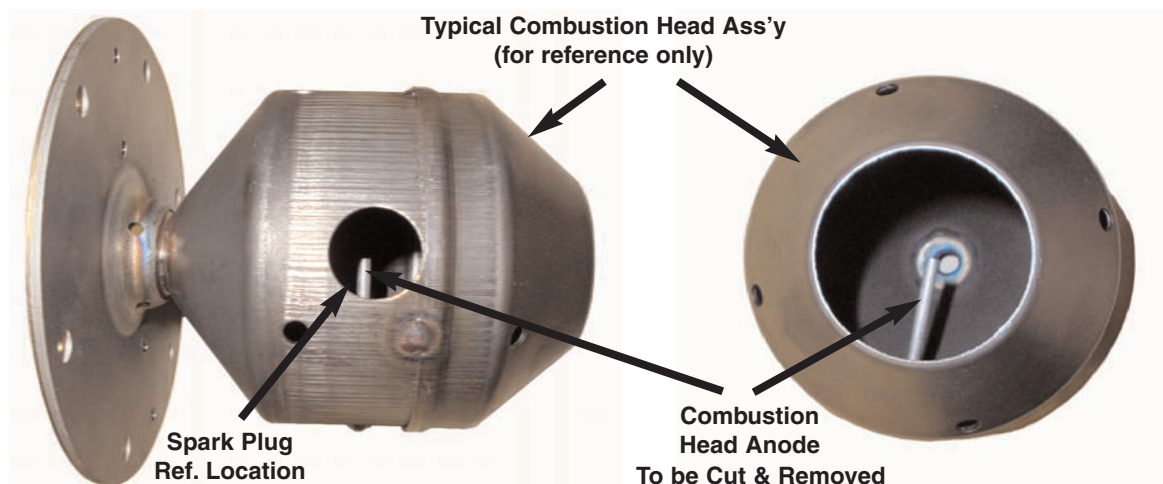

Figure 4 - Remove Combustion Head Anode
- (5) With the combustion head assembly removed, inspect for condition. If there appears to be any deformation, soft areas, or burn through, replace combustion head assembly. If not, clean per the appropriate steps in the applicable manual.
- (6) Locate the combustion head anode as shown in Figure 4. Not all eligible B-Series heater combustion heads will have an anode rod installed. If no anode rod appears, steps 7 and 8 are not applicable.